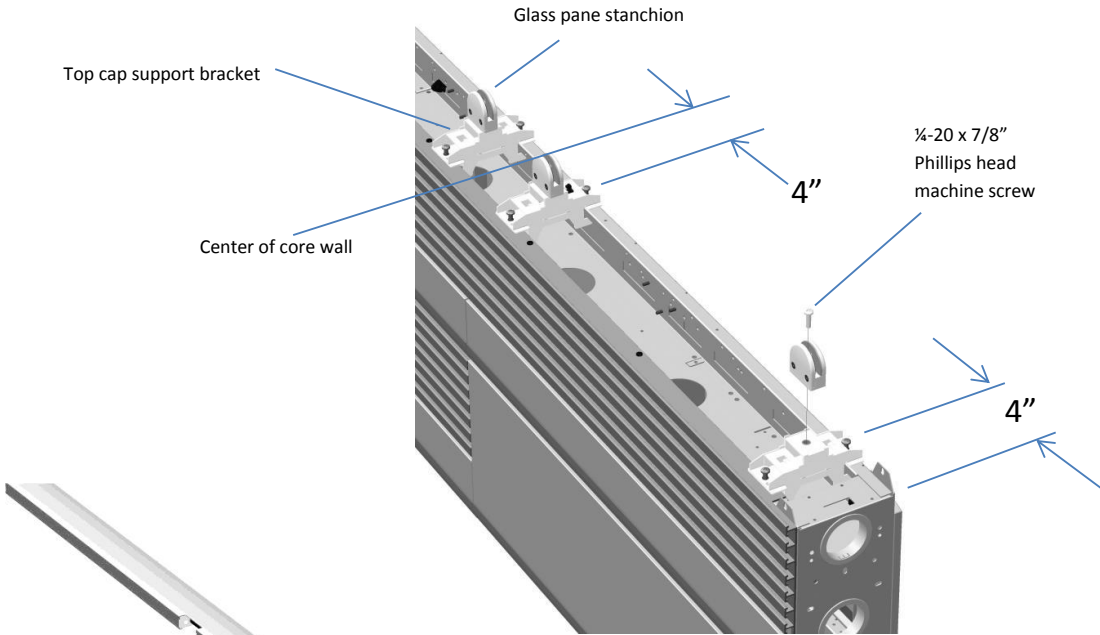

Figure 44
Attach a top cap support bracket to each end of the core wall's top channel. Locate the brackets 4 inches from each end of the core wall section. The hooks on the bracket engage the channel's vertical flanges. To retain the brackets in place, tighten the (2) Phillips head clamping screws on each bracket. See figure 44. (60" and 72" sizes require (2) additional top cap support brackets at the center. Locate each bracket 4" from the center of the core wall.)